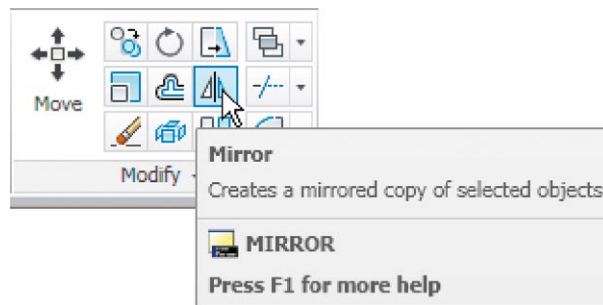

Fig. 5.8 The Mirror tool from the Home/Modify panel
2. Call the **Mirror** tool – left-click on its tool icon in the **Home/Modify** panel (Fig. 5.8) or from the **Modify** drop-down menu, or enter **mi** or **mirror** at the command line. The command line shows: